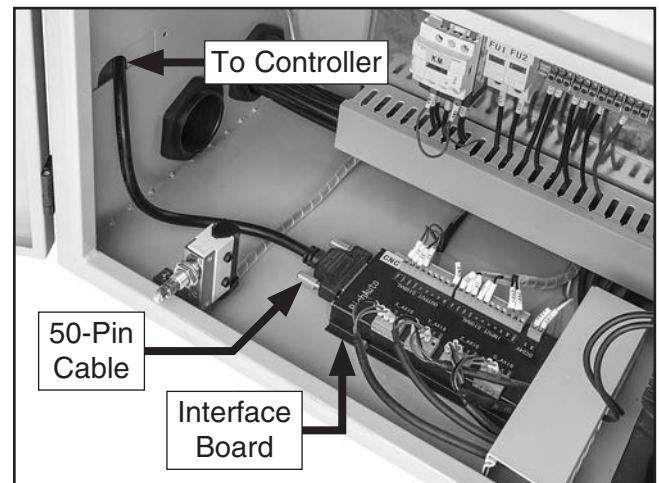

Figure 24. Interface board connections.
The Model G0932 includes a RichAuto B18 controller that controls all machine functions using G-code. The RichAuto control system uses an interface board located in the electrical cabinet (see **Figure 24**), a 50-pin data transmission cable, and a USB-B communication cable.
1. Connect 50-pin cable to interface board in electrical cabinet, then route cable through side of cabinet (see **Figure 24**).